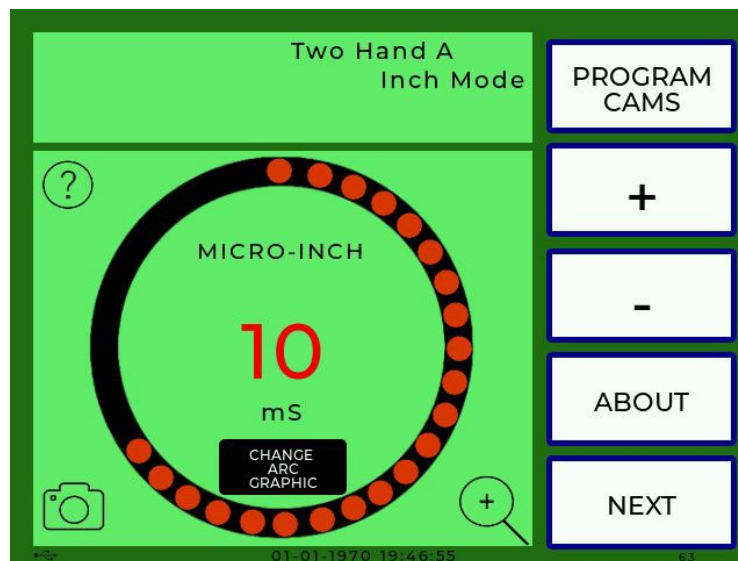

Figure 29. Micro-Inch Time Setting
- In step 1, press NEXT repeatedly until the Micro-inch screen appears, Figure 29.